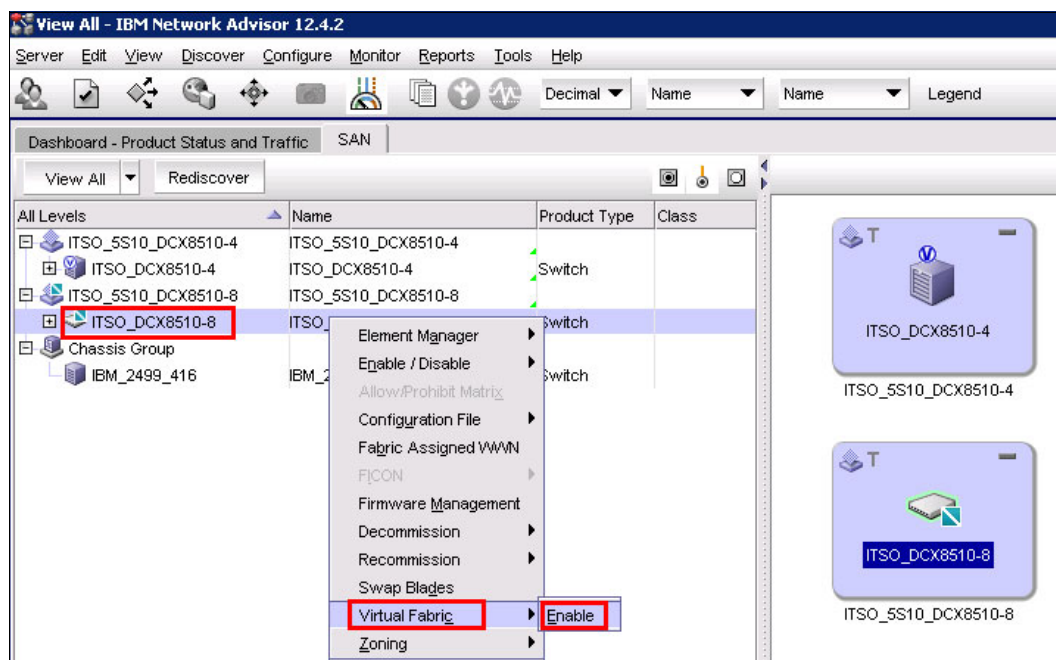

Figure 8-2 Enable Virtual Fabric
1. Right-click the switch where VF will be configured to display the drop-down menus for the switch and select **Enable Virtual Fabric** as shown in Figure 8-2.